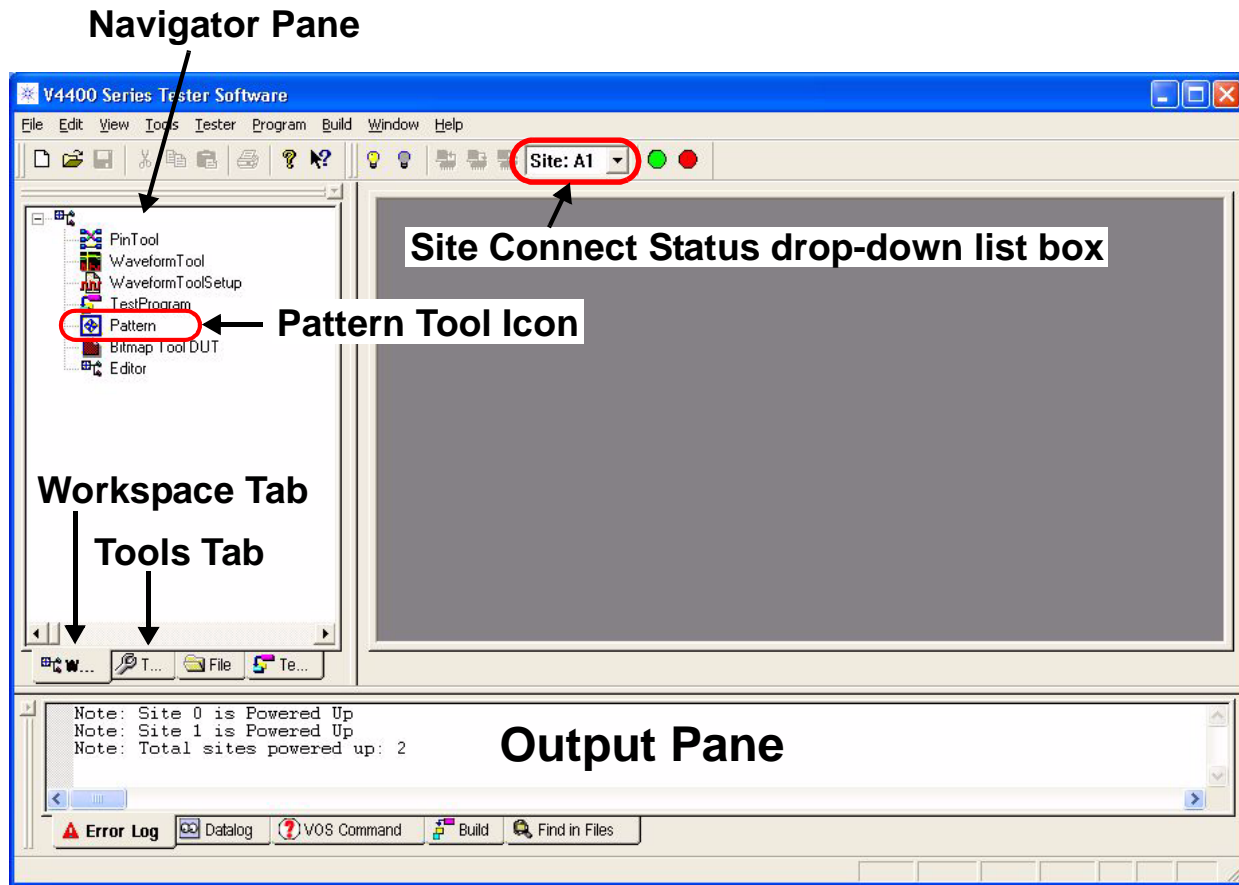

Figure 6-52. IDE Main Window Set Online
- 2 Selecting the yellow light bulb Set Online  toolbar button or corresponding Tester > Set Online command enables the IDE to connect to the tester when the Site Connect Status drop-down list box Site: A1 is enabled as shown in the toolbar in Figure 6-52.